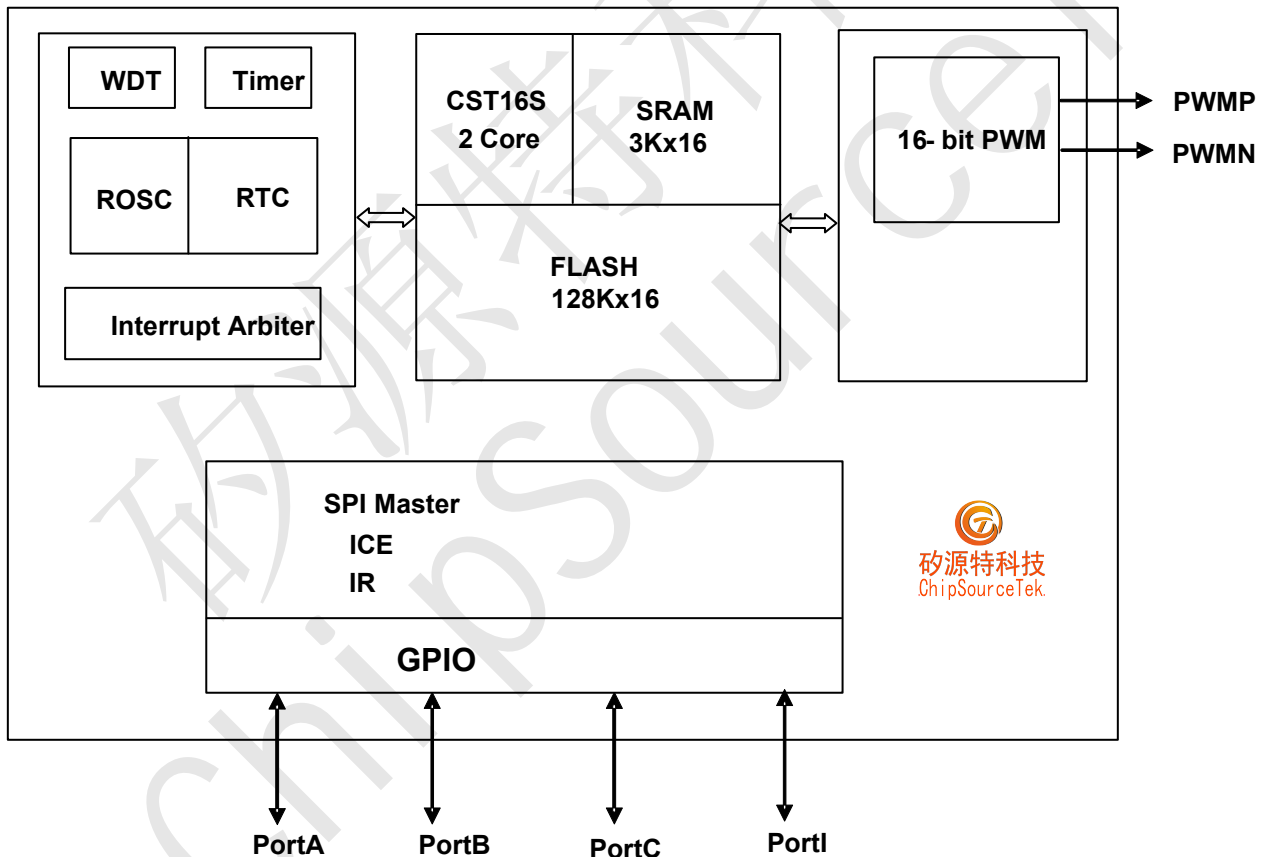

Figure 4.1
As shown in the block diagram in Figure 4.1, the CST16S2 is a 16-bit data width processing capability and all instructions are operated in one cycle except parameter data ROM(PM) access. The CST16S2 not only provides general arithmetic such as addition, subtraction, shifter, normalize, and other logical operations, but it also involves MAC and circular buffer operations for complexity digital signal processing.